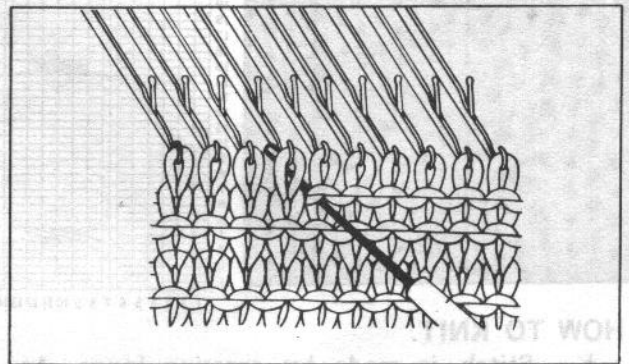

Fig. 1
3. Insert latch needle tool in the loops of the second row. (Fig. 1)